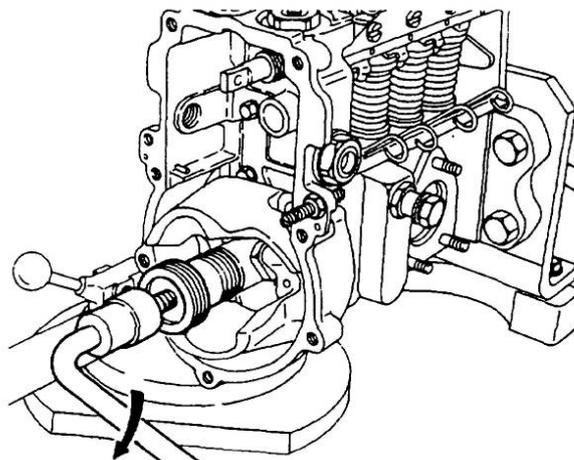

Figure 96 Removal of the Flyweights
- s. Position special tool 157916-5420 on the camshaft coupling to prevent the camshaft from turning. Remove the flyweight retaining nut using special tool 157915-0100 and lever (special tool 157910-1120). Install special tool 157926-5110 into the flyweights and remove the flyweights (Figure 96).